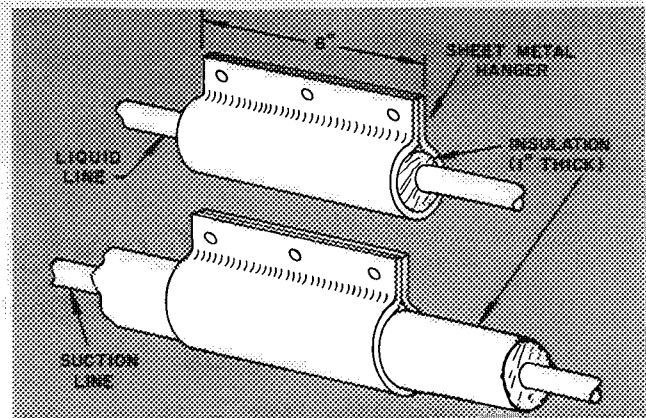

Fig. 2 — Refrigerant Line Hangers
**Line Isolation** — Do not attach refrigerant lines directly to building structure, ductwork or to each other. Use isolation-type refrigerant line hangers to prevent vibration transmission (Fig. 2).